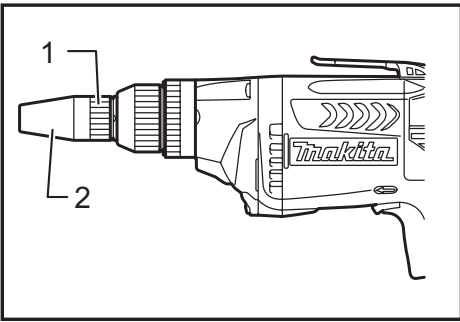

Fig.1
► Fig.1: 1. Locator 2. Front cap